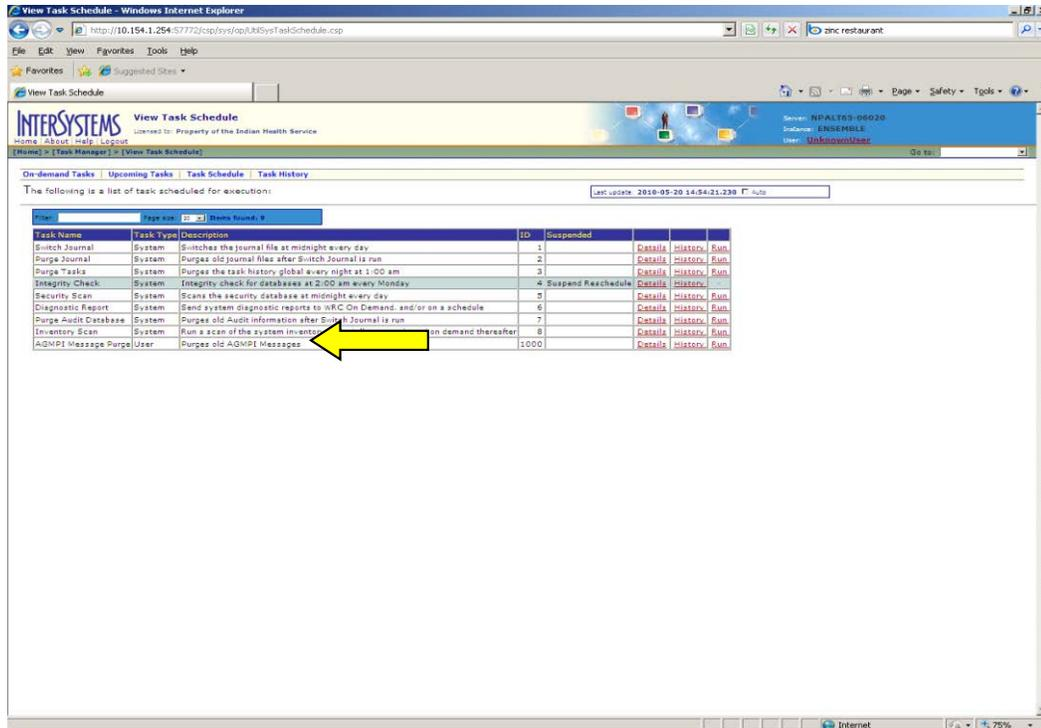

Figure 6-5: **View Task Schedule** page with **AGMPI Message Purge** highlighted
14. Click **Finish** to display the **View Task Schedule** page with the new task at the bottom of the page, as shown in Figure 6-5.